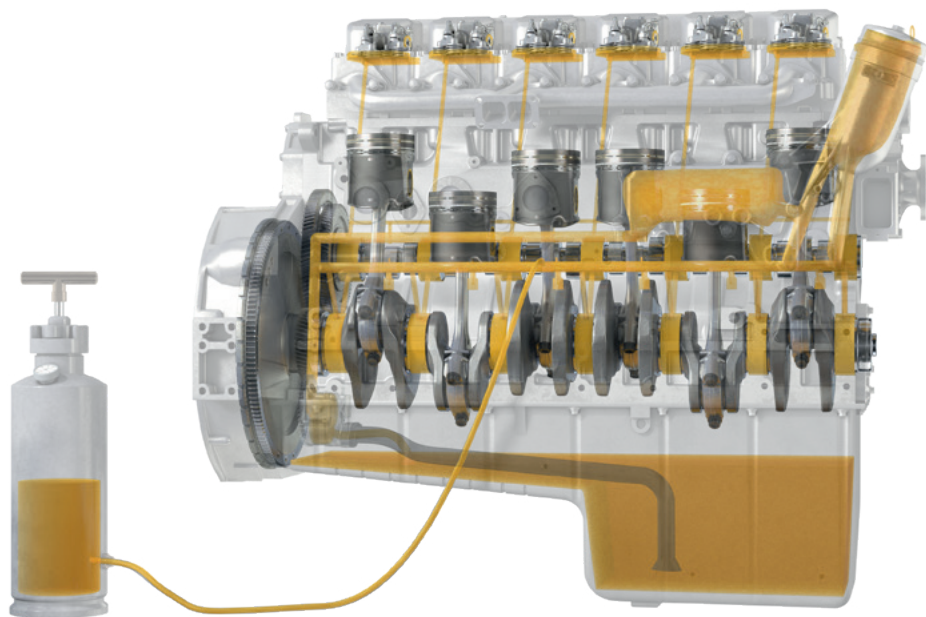

Fig. 1:
1. Using a pressure tank, the oil for the engine is pumped into the engine via a screw connection on the oil pressure system (Fig. 1 and 2). Suitable connection points are the oil channel sealing plugs specified by the engine manufacturer, or the connecting point of the oil pressure switch OPS.